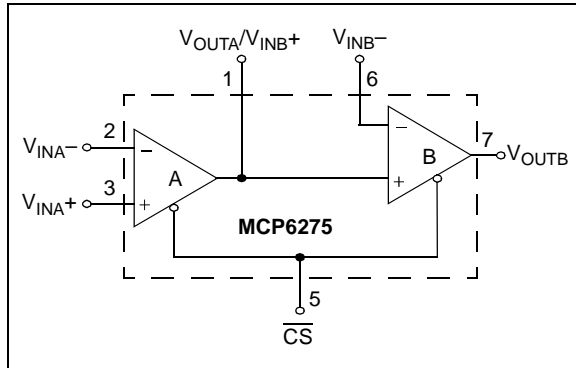

FIGURE 3-4: Cascaded Gain Amplifier.
The MCP6275 is a dual op amp with chip select (\overline{CS}). The chip select input is available on what would be the non-inverting input of a standard dual op amp (pin 5). This feature is provided by connecting the output of op amp A to the non-inverting input of op amp B, as shown in Figure 3-4. The chip select input, which can be connected to a microcontroller I/O line, puts the device in Low Power mode. Refer to **Section 3.3 “MCP6273/5 Chip Select (CS)”**.